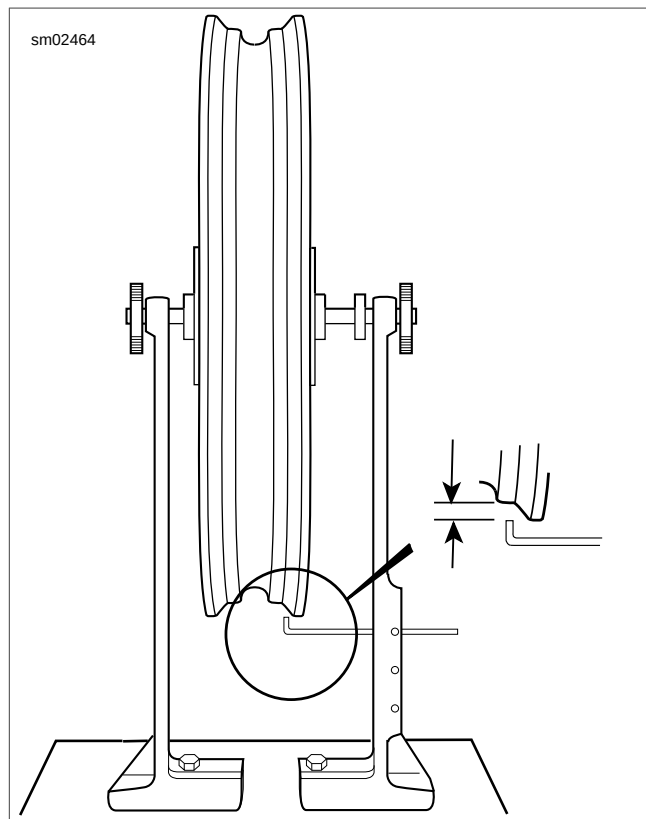

Figure 2-63. Truing Rim Radially
1. See Figure 2-63. Adjust truing stand gauge to the rim's tire bead seat as shown. The rim should be trued within 0.030 in. (0.76 mm).